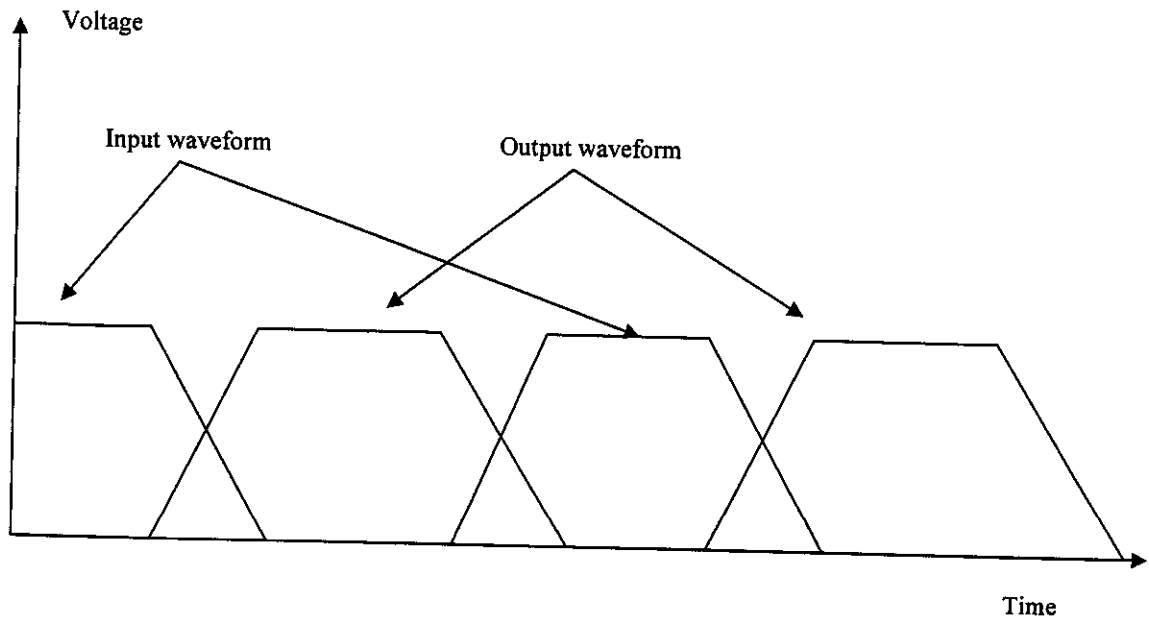

Figure 4(iii)
- (c) A symmetric inverter shows the input-output pattern as shown in Figure 4(iii). Sketch the pattern of current drawn from the power supply and the short circuit current by clearly stating the reason for their behaviour.